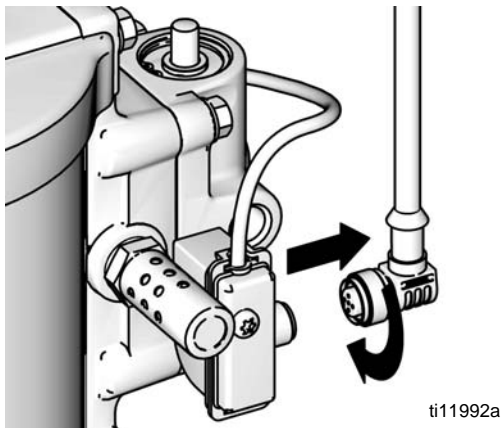

FIG. 10. Disconnect DataTrak
1. Unscrew cable from the back of the reed switch assembly. See FIG. 10.